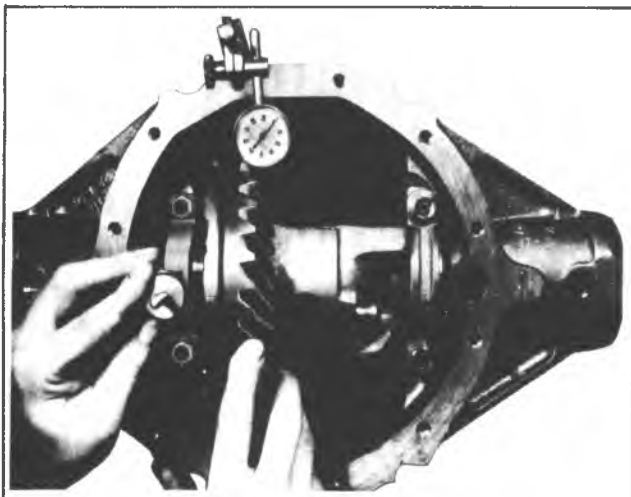

Fig. 6B--Installing Gaging Tool
4. With the ring gear tight against the pinion gear (.000" to .001" backlash), insert gaging Tool J-22779 between the left bearing cup and carrier housing as shown in figure 6B.